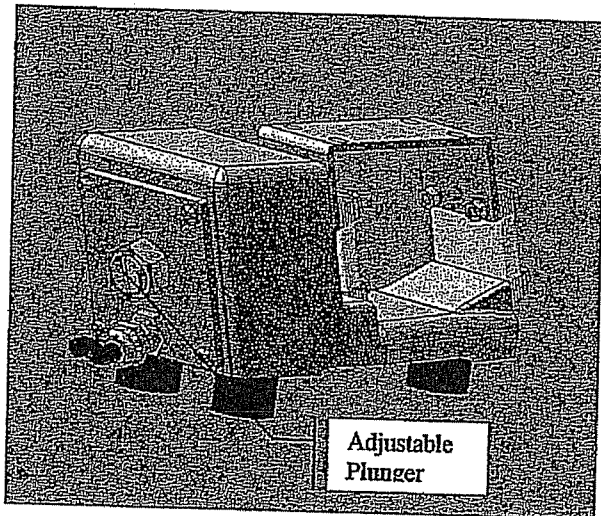

Figure 3
2. Insert a screwdriver into the slot of the plunger (Figure 3) and turn it clockwise until the plunger hits the armature.